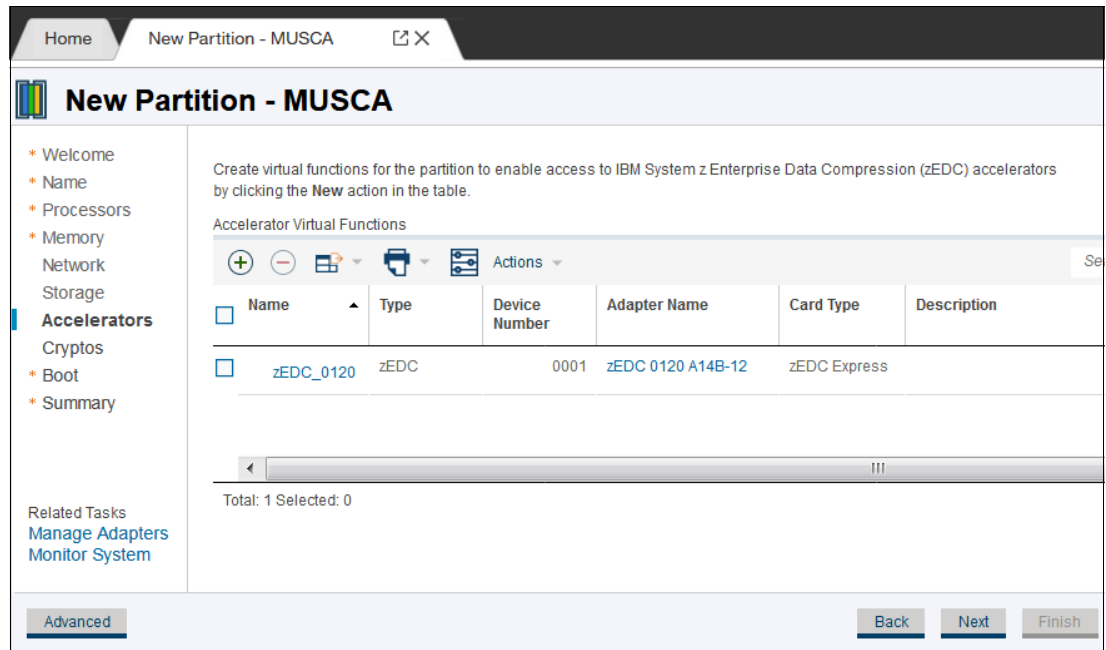

Figure 16-46 Accelerator device (data compression)
- An accelerator device (0001) is created, as shown in Figure 16-46. Click **Next** to configure a Crypto adapter.